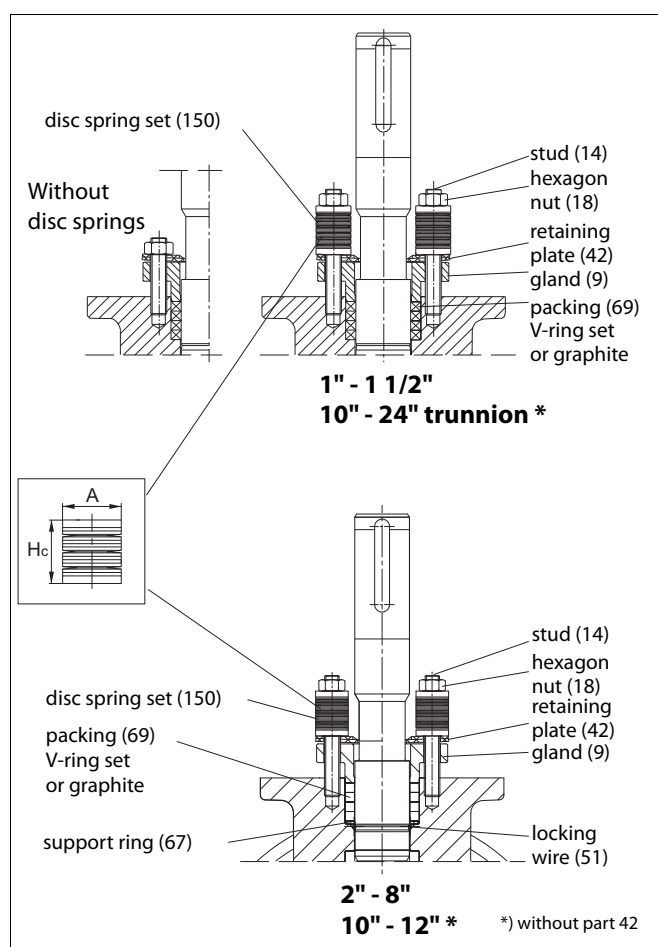

Fig. 15 Packing
**Do not remove the locking wire (51) located under the thrust ring (67)!**
- ☐ Place the new packing rings (69) around the stem (5) and in the counterbore, e.g. using the gland (9). See Figure 15 for correct position of the packing.